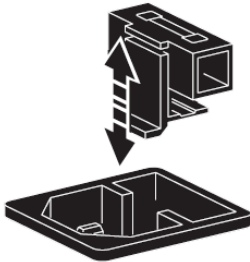

Figure 39: Tripix Power Fuseholder
2. See Figure 39. Open the fuseholder located next to the power cable entry with a flathead screwdriver and remove the fuse.